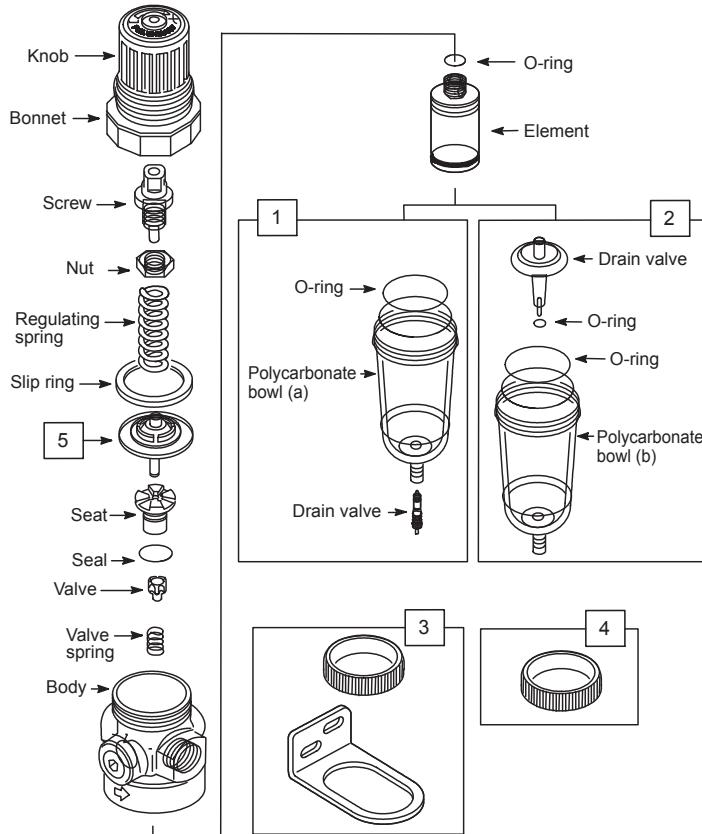

figure 2
OPERATING INSTRUCTIONS (See Figure 2)
- 1 Disassembly (See Figure 2)**
- Disassemble in general accordance with the parts illustrated in Figure 2. Do not remove the drain unless replacement is necessary. Remove and replace only if drain malfunctions.
- 2 Cleaning(See Figure 2)**
- 3 Assembly (See Figure 2)**
- Assemble filter as shown on Figure 2.